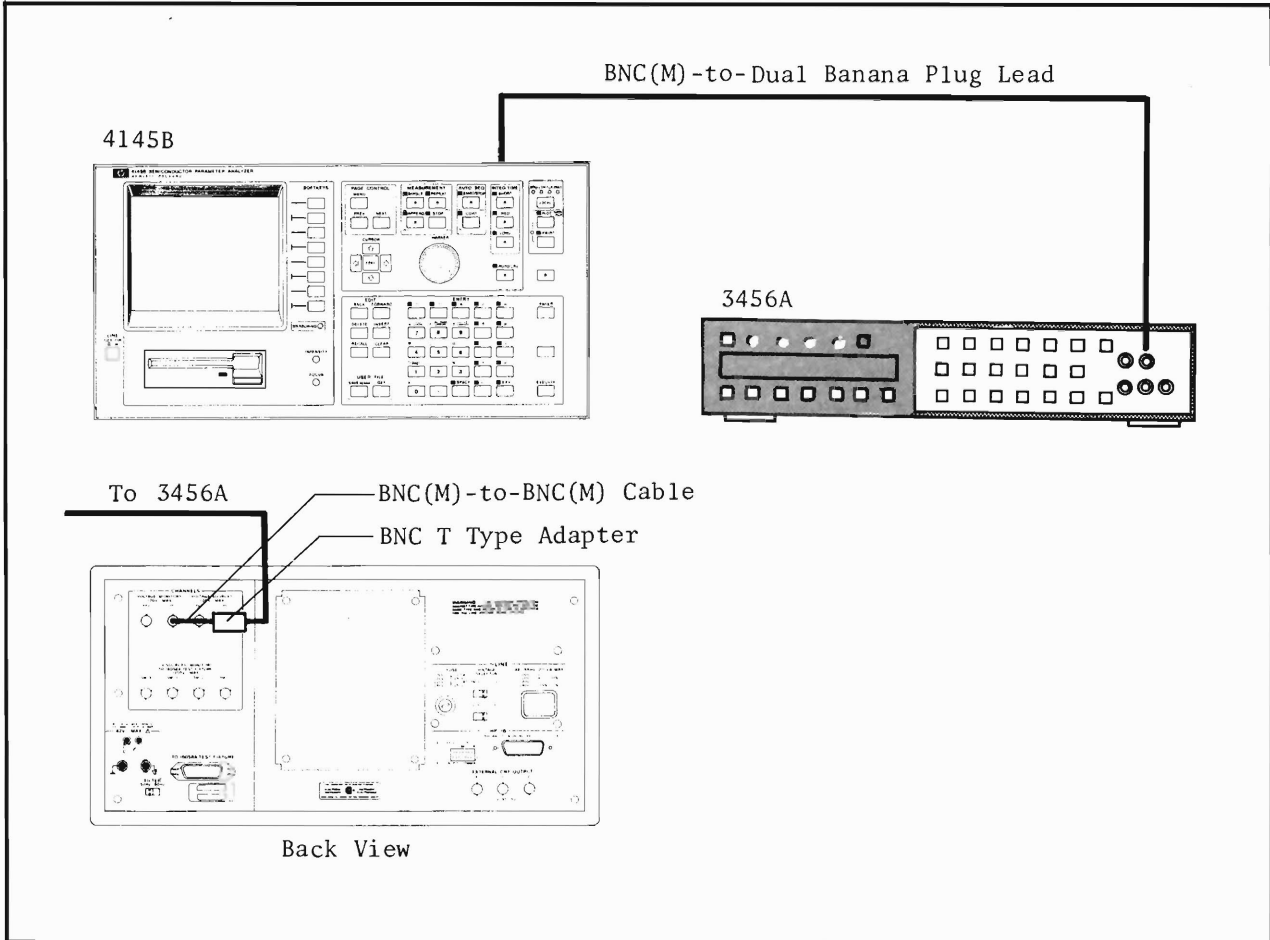

Figure 4-12. MU Accuracy Test Setup.
2. Connect VM channel 1 (Vm1) and the 3456A to VS channel 1 (Vs1) as shown in Figure 4-12.